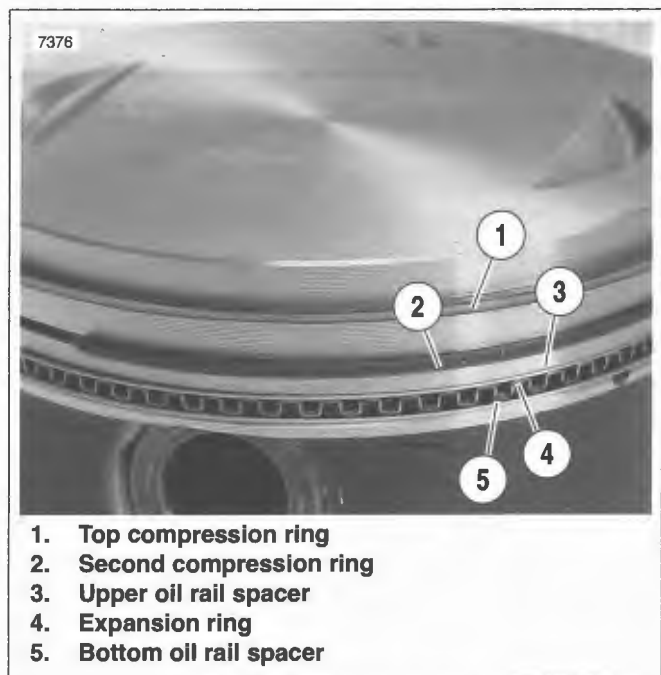

Figure 3-122. Piston Rings
3. See Figure 3-122. Install piston rings.
- b. Install expansion ring (4) into third ring groove.
- c. Spiral bottom oil rail (5) into space below expansion ring (4). Position gap 90 degrees from the gap in the expansion ring.
- d. Spiral upper oil rail (3) into space above expansion ring (4). Position gap 180 degrees from the gap in the expansion ring.